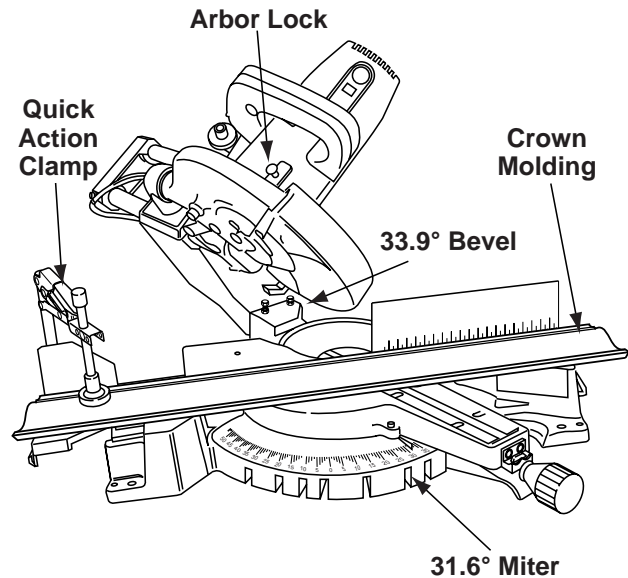

Figure 34. Crown Molding Laying Flat
1. Set the bevel and miter angles using Chart 1 below. Tighten the miter lock knob and the bevel lock handle (Figure 34).